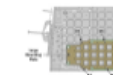

Figure 2. Large Mounting Plate Installation
- 2.2 Install the Large Mounting Plate onto the MPEP using bolt holes A3, A6, D3 and D6, threading fasteners (four) by hand approximately 4 turns (Figure 2).